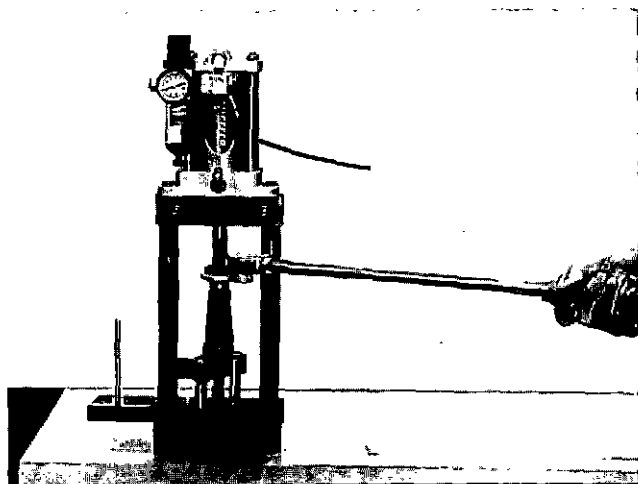

Fig. 3-3, (F60236). ST-1298 with flange injector
3. Loosen the cup but do not remove, Fig. 3-3.